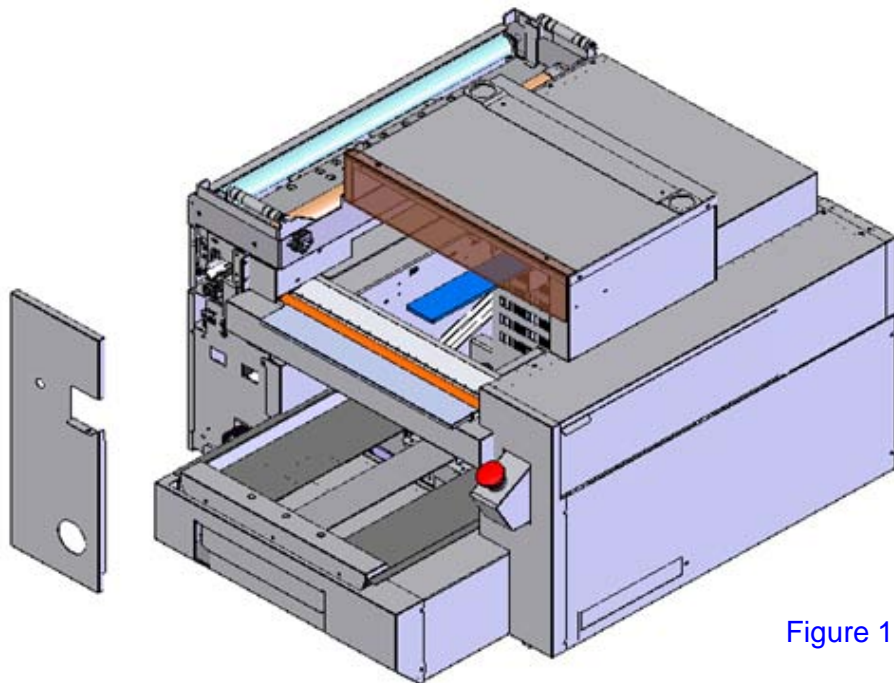

Figure 1.
6. Remove the left, front cover (three screws). See Figure 1.